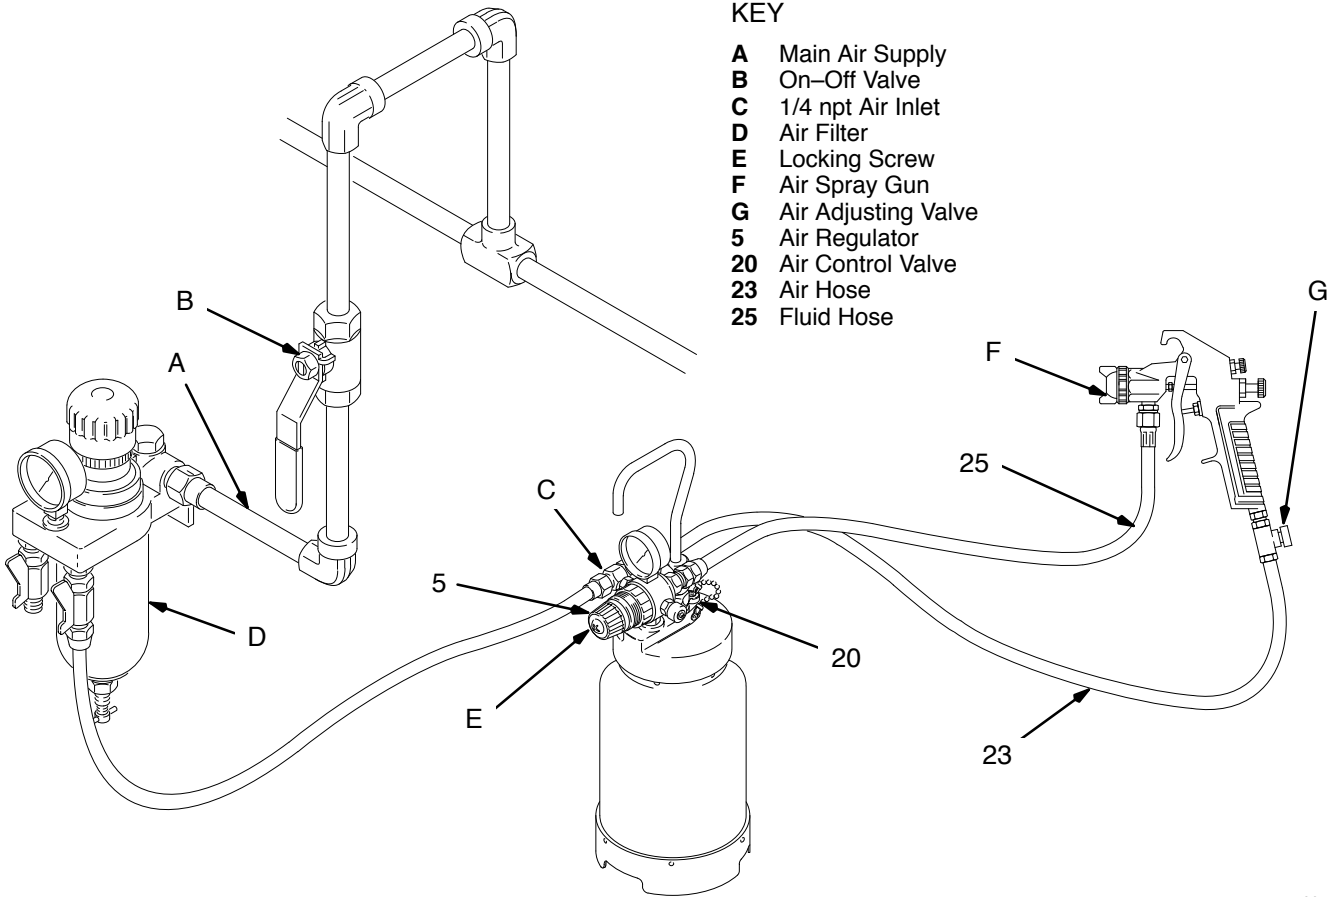

Fig. 1
Connect the air (23) and fluid (25) hoses as shown in Fig. 1. The recommended auxiliary equipment shown in Fig. 1 can be found in the **Accessories** section on page 6.